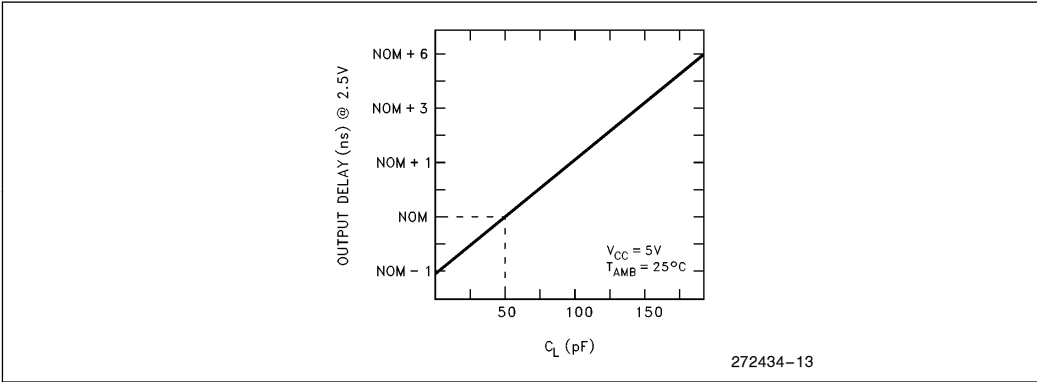

**Figure 14. Typical Output Delay Variations versus Load Capacitance**
4. Specified for a 50 pF load, see Figure 14 for capacitive derating information.